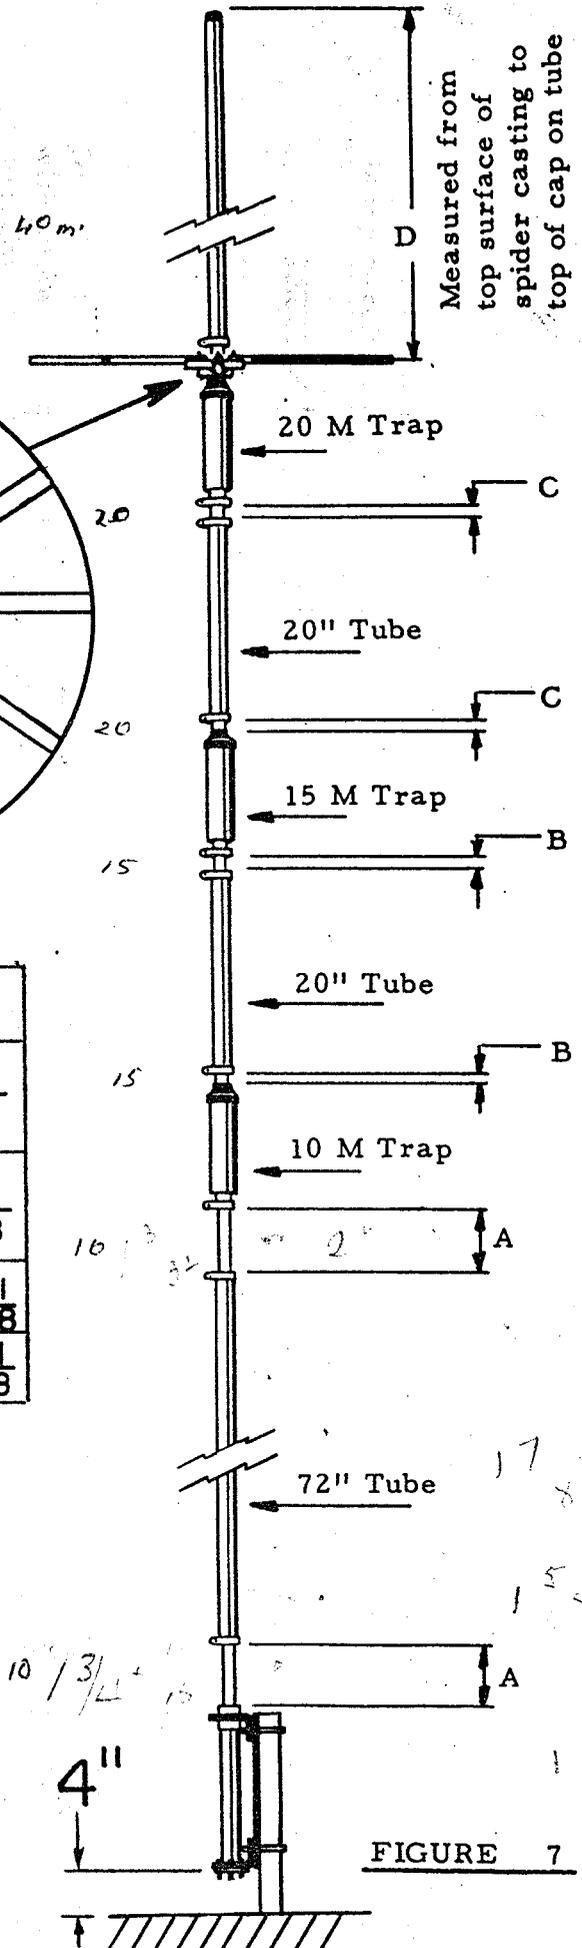

FIGURE 7
11. Install the 10 meter trap to the 1-1/4" x 72" tube, using one of the clamp assemblies. Set to Dimension A from Table 1, Figure 7, the measurement should be made at the end of the long tube and the bottom edge of the trap. Securely and carefully tighten the clamp.